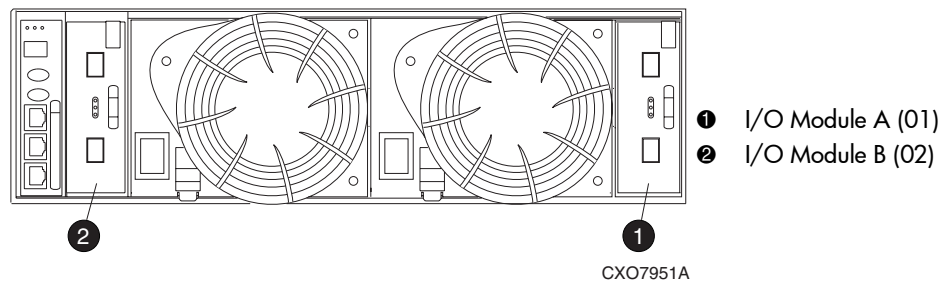

Figure 69: I/O module element numbering
- en. is the two-character I/O module element number. See Figure 69.